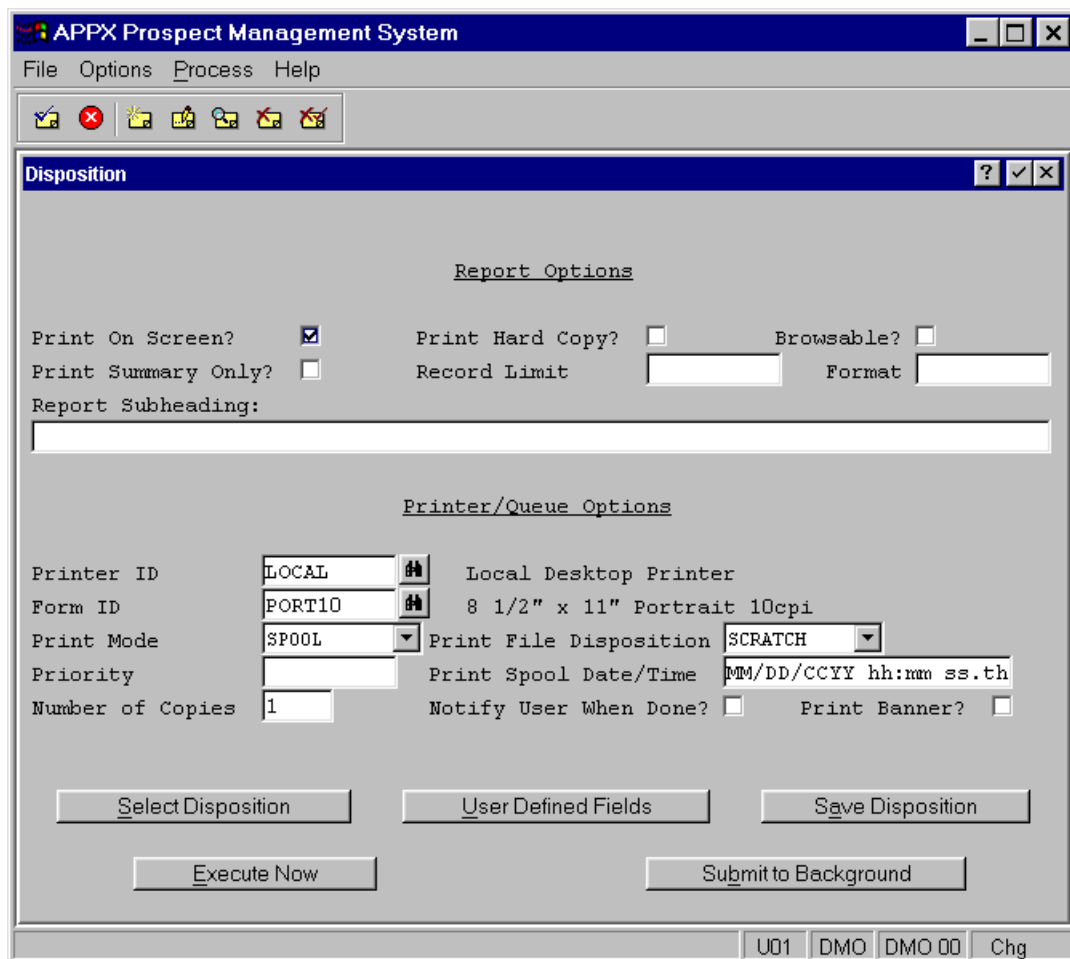

Figure E4.17 – Disposition Screen
- The **Disposition** screen is the next screen to be displayed (*Figure E4.17*). The Disposition screen allows you to specify where and how your report will print. **Check the ‘Print on Screen?’ box** so your report will be displayed on your screen when it runs. If you check the **‘Print Hard Copy?’** box then your report will be sent to the printer specified in **Printer ID** (which of course you can change simply by clicking on the binoculars icon and selecting an alternative printer). You can add your own subheading text to the final report by entering the required text in the **Report Subheading** field. Additionally, you can change the **Form** on which your report prints, the **Number of Copies** and you can even select a different disposition simply by using the ‘Select Disposition’ button. The Disposition screen is also where you would specify that you want to save a report to disk so it can be printed later, transferred to another machine, viewed or manipulated by another program, and so forth.